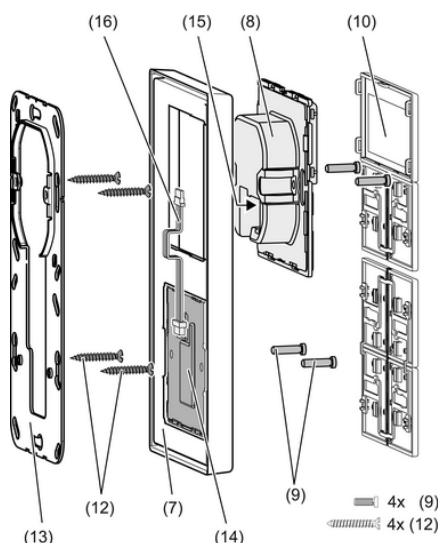

Figure 3: Mounting with push-button extension module
When the push-button extension module is used (figure 3): Preferably mounted vertically. Use large supporting ring (13). When mounting on only one flush-mounted box, countersink the lower screws into the wall, e.g. with a $\varnothing 6 \times 10$ mm hole. Use supporting frame as template.
- Mount supporting ring (6) or (13) in the right orientation on an appliance box. Note marking **TOP** ; marking **A** or **B** in front. Use only the enclosed box screws (12).
- Push frame (7) onto supporting frame.
- Push-button extension module: Insert connecting cable (16) in the correct orientation into slot (15) in the device. Do not crimp the connecting cable (figure 3).
- Connect device (8) to the KNX using KNX connecting terminal (11) and push onto the supporting frame.
- Fix device (8) and pushbutton extension module (12) to supporting frame using the plastic screws (9) enclosed. Tighten the plastic screws only lightly.
- Before mounting the buttons (10), load the physical address into the device .